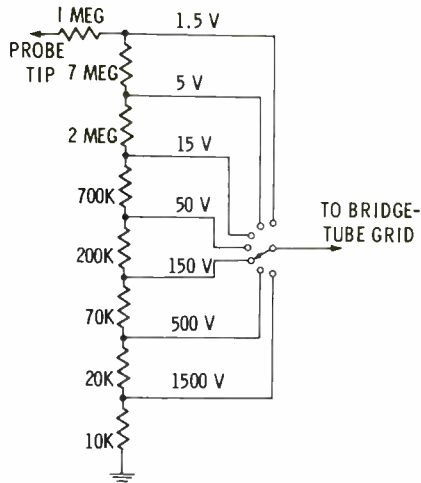

Fig. 2. Range switch and voltage divider for a DC VOLTS circuit.
A network that provides seven DC voltage ranges is shown in Fig. 2. In the VTVM from which this circuit is taken, a change in potential of slightly more than 1.35 volts between the bridge-tube grids causes full-scale deflection of the meter. (The meter movements used in most VTVM's have a 200- or 400-microampere sensitivity.) The values of the resistors in the divider circuit are proportioned so that the voltage required for a full-scale reading will be present at the tap corresponding to a given range at any time when the maximum voltage for that range is applied between the probe tip and ground.
**+DC VOLTS**—This is the simplest circuit in the meter. The main element in addition to the probe and bridge is a voltage-divider network like the one in Fig. 2. Notice that the input circuit (between the probe tip and ground) at all times includes the entire resistance of the voltage divider plus that of the 1-megohm isolating resistor. Thus, the VTVM has a constant and very high input resistance—usually 11 megohms, and even more in some cases. As a result, the shunting effect of the instrument is held to the practical minimum. In low-voltage high-impedance circuits, the accuracy of voltage readings is affected to some degree, but the effect is negligible. In the same circuits, a reading taken with a 20,000-ohm-per-volt VOM might